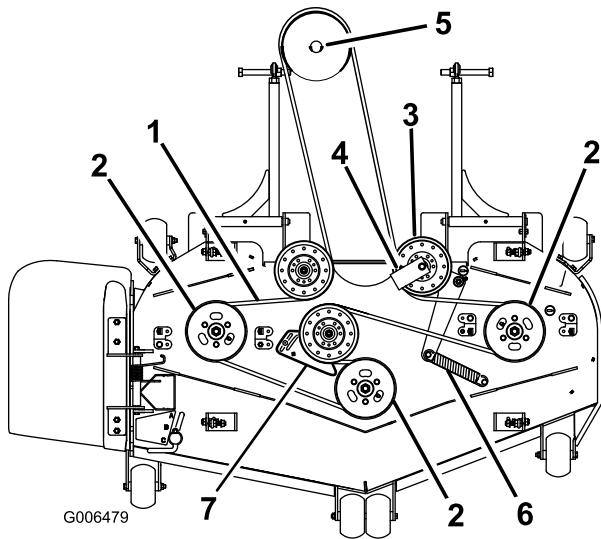
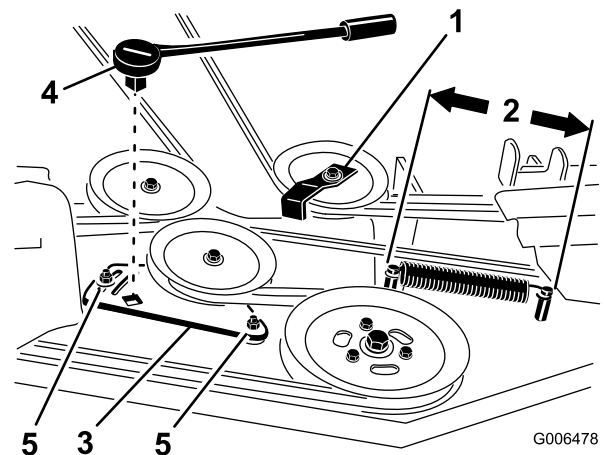

Figure 55
Figure 57
4. Loosen the idler plate bolts holding the idler plate (Figure 57).
6. Remove the belt guide on the spring loaded idler pulley shown in Figure 55 and Figure 57.
8. Install the new belt around the mower pulleys and the gearbox pulley under the engine (Figure 55).
- Install the belt guide on the spring loaded idler at a 45 degree angle as shown in Figure 55 and Figure 57. Torque the bolt to 27 to 33 ft-lb (37 to 45 N-m).
- Install the idler spring to the two posts (Figure 55 and Figure 57).
- Measure the spring length (Figure 57). If the spring length is between 10 and 10-1/4 inches (25.4 and 26.0 cm), from post to post, no adjustment is needed.
- Loosen the bolts holding the idler plate (Figure 57).
- Insert a ratchet or breaker bar into the square hole in the idler plate to adjust the tension (Figure 57).
- Rotate the ratchet or breaker bar to move the idler plate until the idler spring is between 10 and 10-1/4 inches (25.4 and 26.0 cm) from post to post as shown in Figure 57.
- While holding the belt tension and spring length, tighten the idler plate bolts that secure the idler plate (Figure 57).